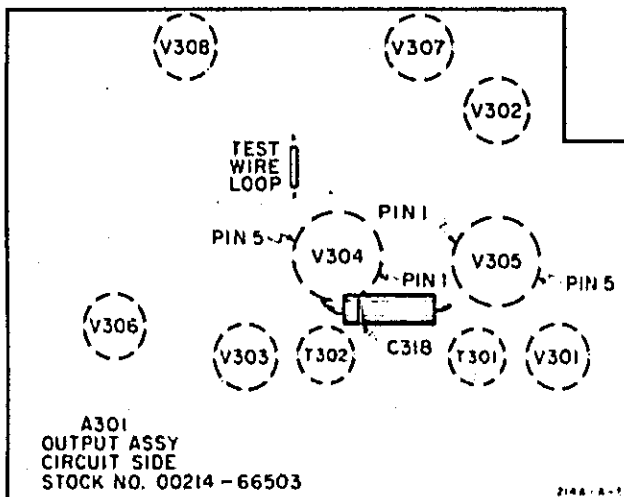

Figure 5-6. Assembly A301 Circuit Side
b. Refer to figure 5-6 and locate the wire loop on the bottom side of the output circuit board, A301. The current flowing in this loop is to be measured and an adjustment made if necessary.